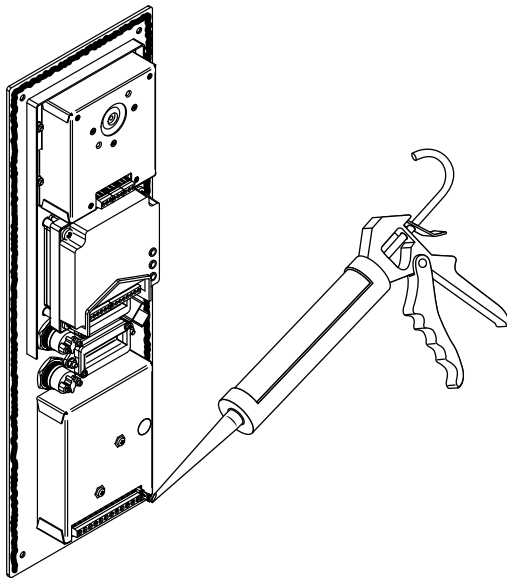

Fig. 3 -
**In order to prevent water ingress we highly recommend using a silicon sealant between the plate and the wall (Fig. 3);**